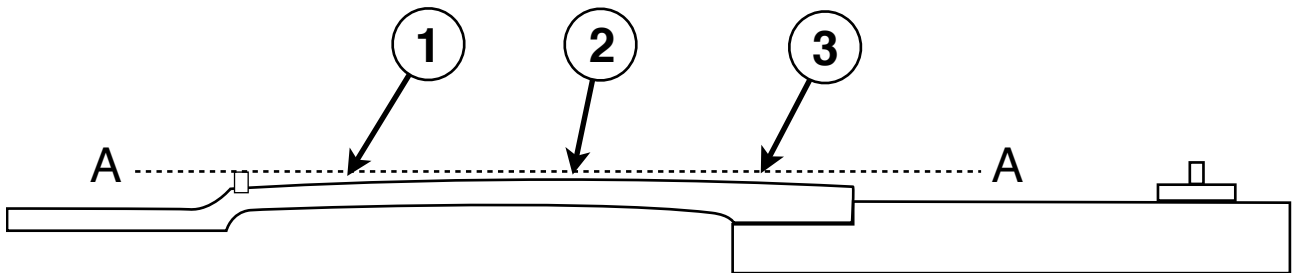
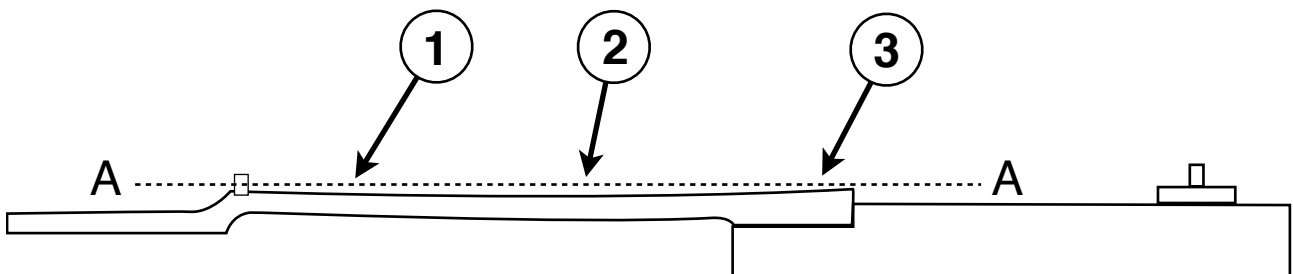

Fig. 14
Fig. 15
In **Fig. 14** you can see that the bass buzzes at the first frets ① and stops buzzing more or less at the middle of the neck ② and doesn't buzz at all at the last frets ③, which is a sign that you need to loosen the truss-rod because the neck isn't arched or it is bowed back, as you can see in relation to the straight line A-A.
In **Fig. 15** the instrument is arched in the correct direction but too much so. The instrument doesn't buzz at the first frets or in the middle, but it will buzz at the last frets, which is a sign that the neck should be straightened by tightening the truss-rod. In the case of most common truss-rods, you will need to tighten the head a quarter-turn clockwise.
11. Pay attention to where the instrument buzzes. If it does it at the first frets (**Fig. 14**), you should loosen the truss-rod a quarter-turn. If it does it at the last frets (**Fig. 15**), then you should tighten the truss-rod a quarter-turn.